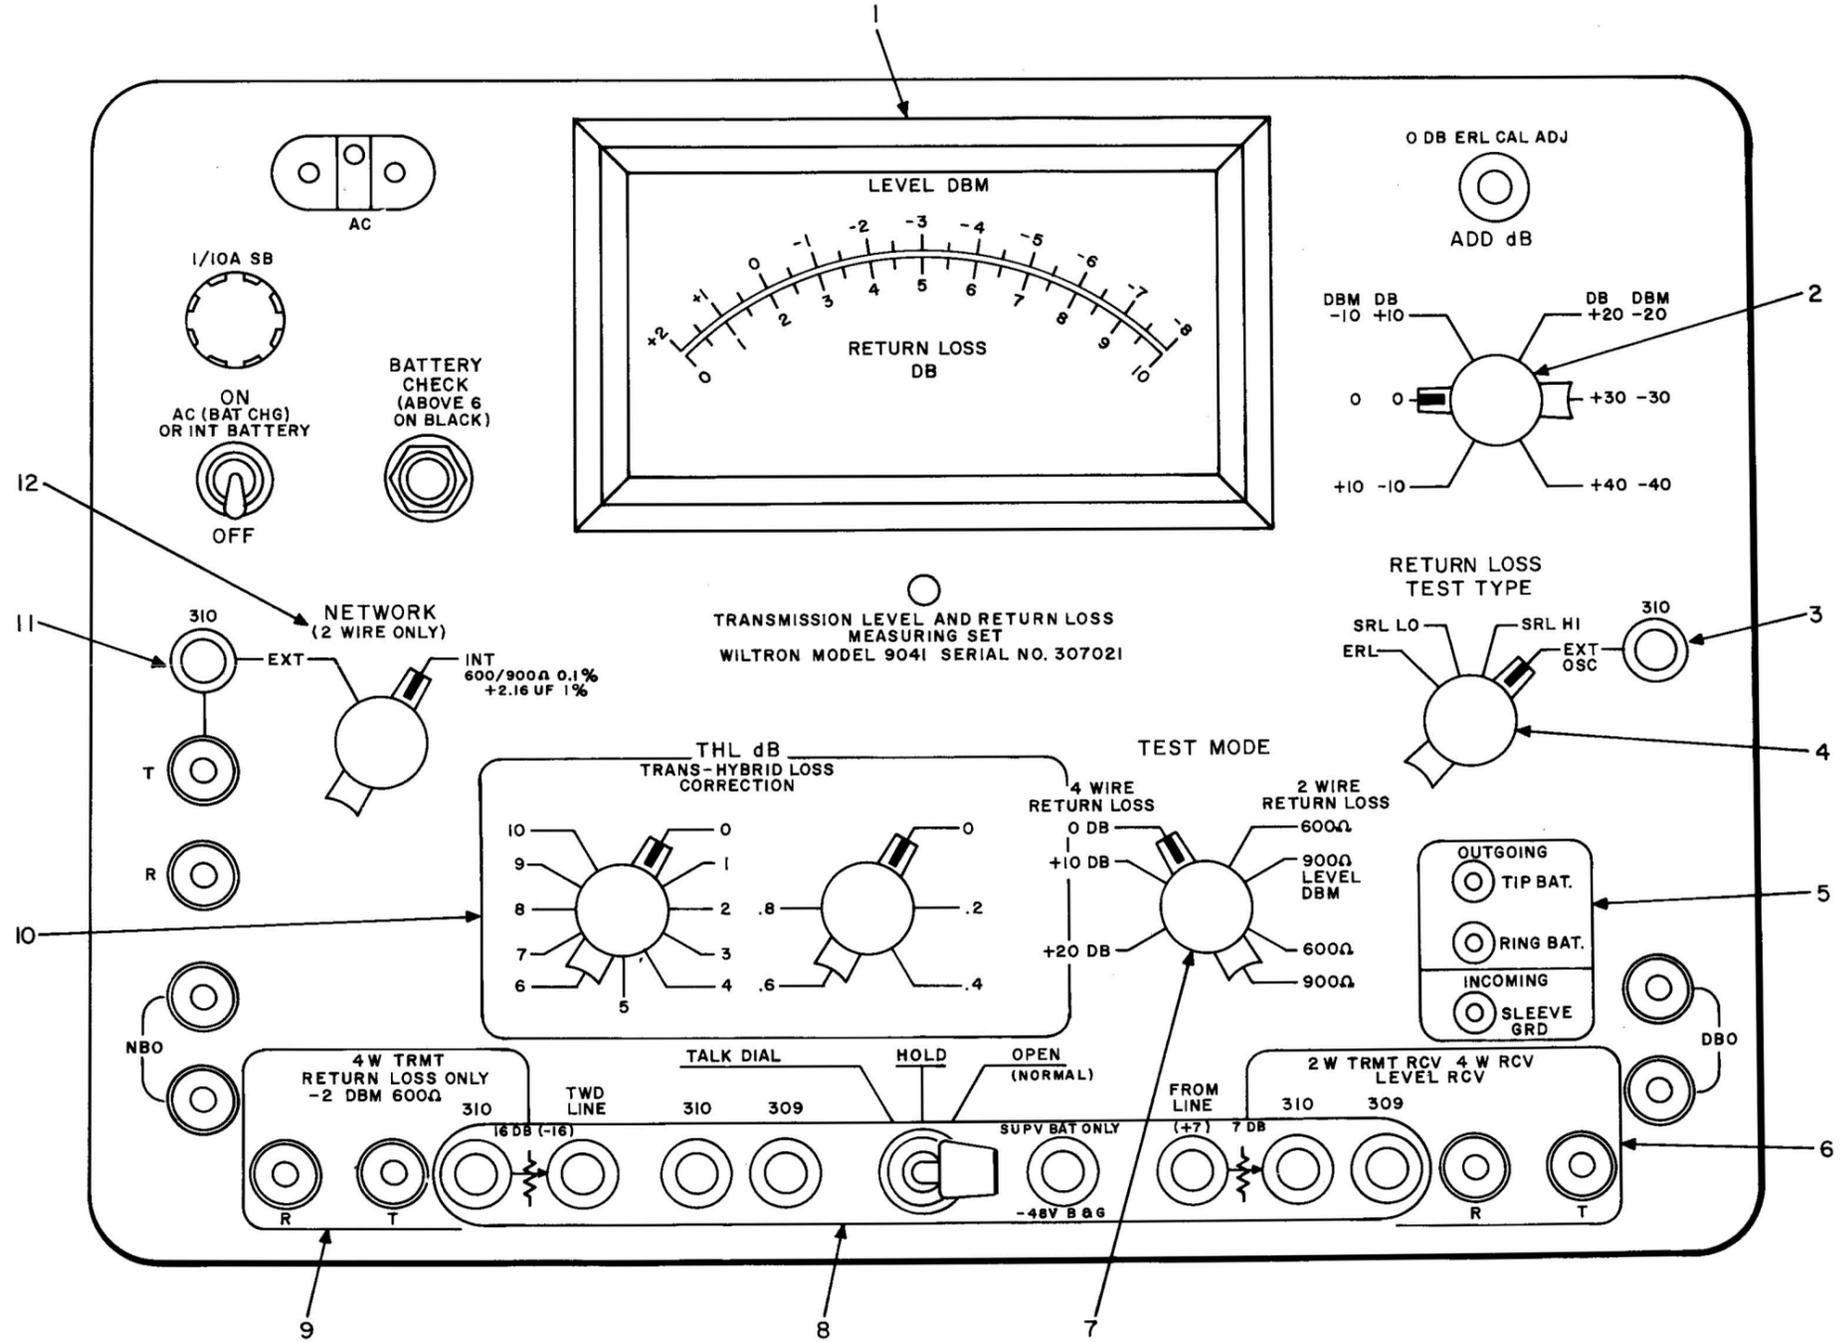

Fig. 4-29—9041 Transmission Level and Return Loss Measuring Set
**9041 Transmission Level and Return Loss Measuring Set (Fig. 4-29)**